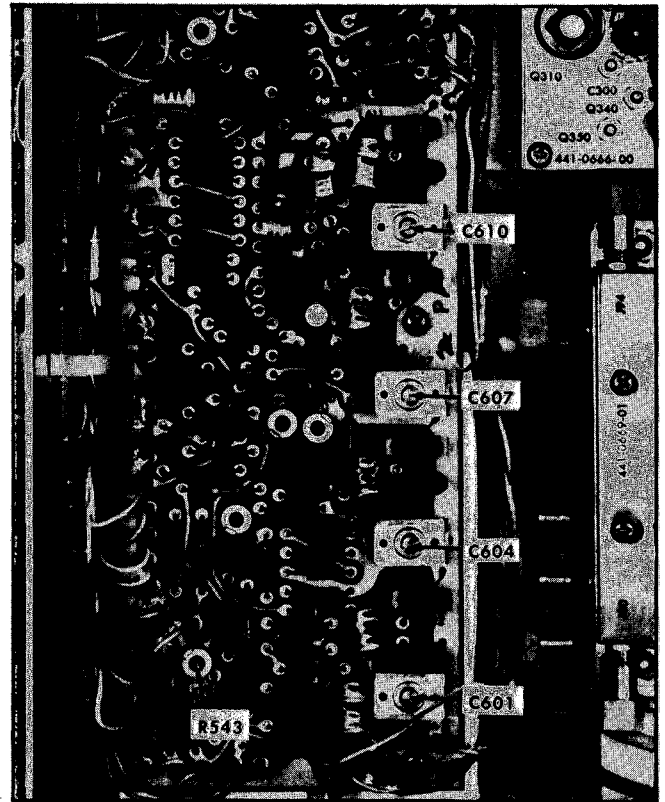

Fig. 6-28. location of resolution filter adjustments and 100 kHz Resolution Cal R543.
h. Adjust 100 kHz Resol Cal R543 (Fig. 6-28) so the display begins to show evidence of over coupling (slight dip in the center). Bandpass response on the analyzer display should decrease to approximately 60 kHz at the -6 dB point when the RESOLUTION selector is turned counterclockwise one step from the fully clockwise position.